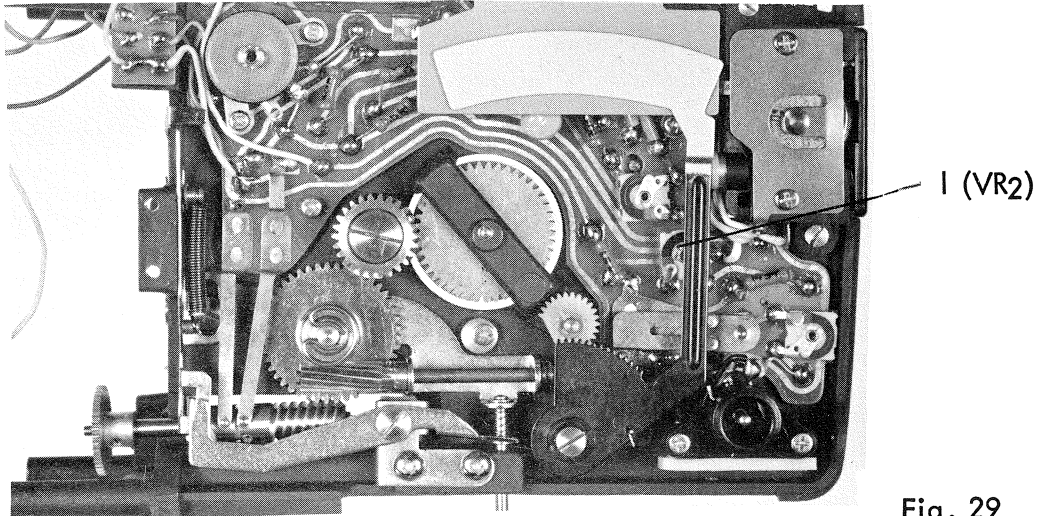

Fig. 29
- 4-1-1. Remove side plate (1) on the feet meter side and insert an auto eye measuring cassette.
- 4-1-3. While looking at the ohm meter, adjust VR_2 (1 in Fig. 29) to obtain the correct exposure.